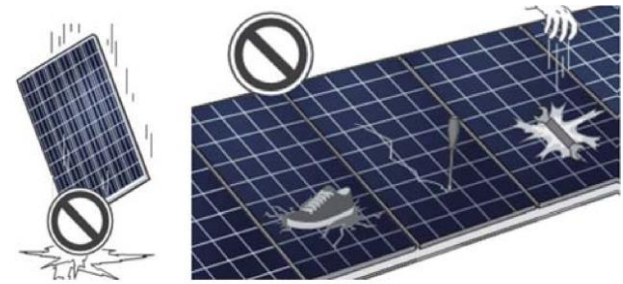

Figure 4. Handling Precautions
10. Do not step or walk on the modules. Doing so may damage module (please see Figure 4).
11. Do not carry wet or hot modules dropping a module from an height and impact of falling tools may affect the electrical performance or break the module (see Figure 4).